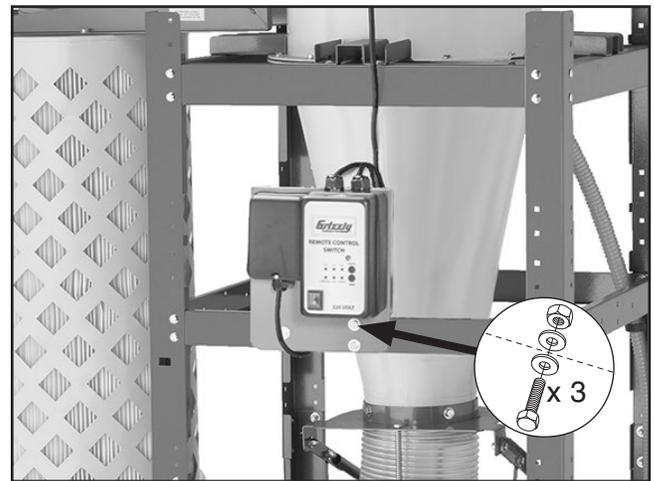

Figure 35. Switch mounted to stand.
52. Mount switch box base panel on stand, as shown in **Figure 35**, with (3) $\frac{3}{8}$ "-16 x $\frac{3}{4}$ " hex bolts, (6) $\frac{3}{8}$ " flat washers, and (3) $\frac{3}{8}$ "-16 hex nuts.